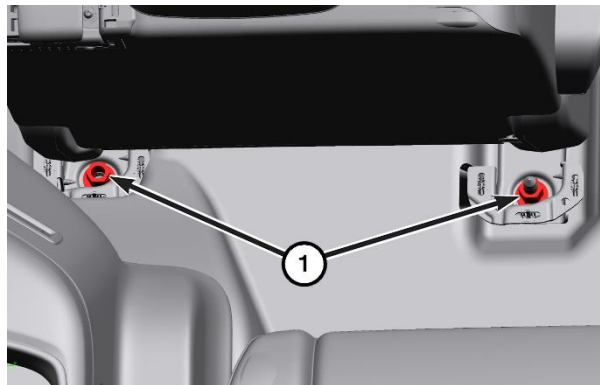

Figure 72 – Seat Rear Bolt and Nut
8. Remove the second row rear seat to floor bolt and nut (1) (Figure 72).